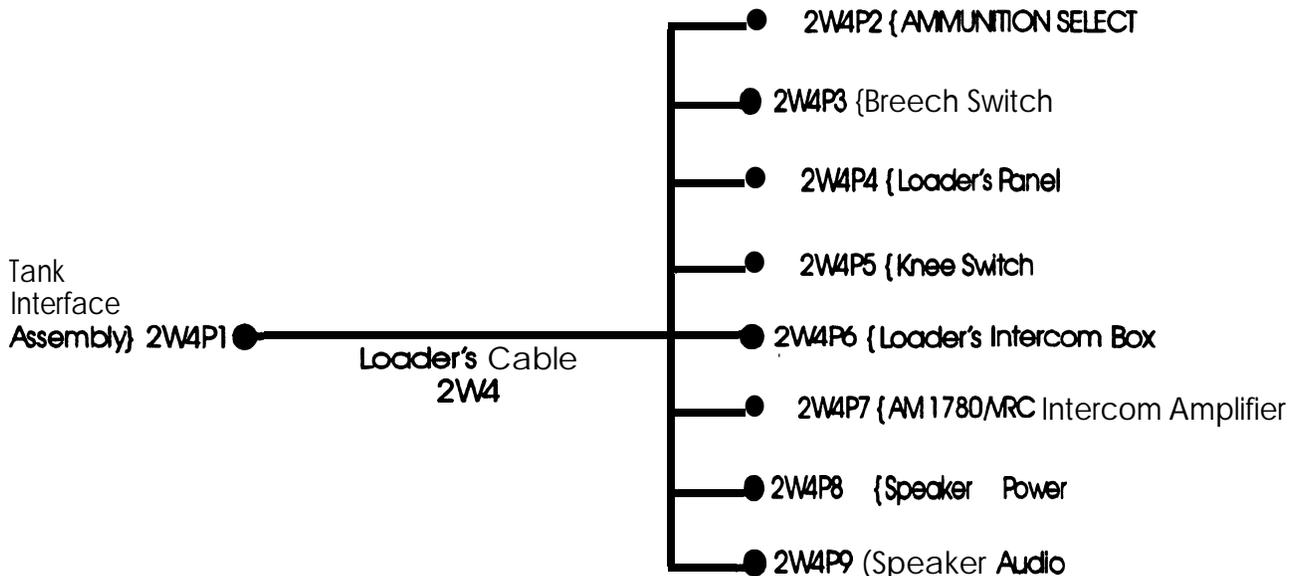

Figure 2-51. Loader's Crew Station Cable 2W4 Wire Diagram
2.4.7.4.2.3 Loader's Crew Station Cable 2W4 Initial Position. Position Loader's Crew Station cable 2W4 to make the connections shown in Figure 2-51 as follows: